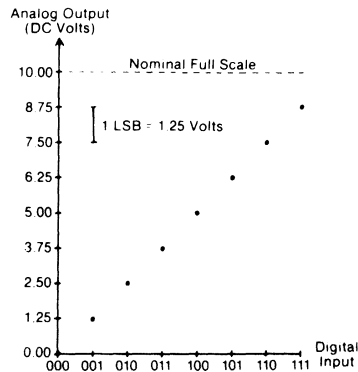
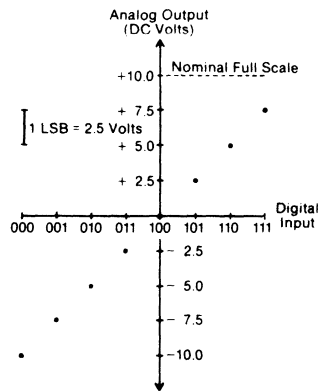

Figure 1. Digital input/analog output transfer function of an ideal, 3-bit, 0 to +10V output range, binary coded D/A converter.
Figure 2. Digital input/analog output transfer function of an ideal, 3 bit, $\pm 10V$ output range, offset binary coded D/A converter.
Let's begin at the beginning, with the data converter input/output transfer functions. Figure 1 shows the ideal digital input/analog output transfer function of a 3bit, 0 to +10V output range, binary coded digital to analog converter (D/A).
Figure 2 shows the ideal digital input/analog output transfer function of a 3 bit, $\pm 10V$ output range, offset binary coded D/A converter.
has $2^8 = 256$ different input codes; a 12 bit D/A has $2^{12} = 4096$ input codes; etc... The 3 bit D/A of Figure 2 operates as follows:
The analog output of a D/A converter changes in discrete analog steps with changes in digital input. The smallest *change* in output level that can be generated by a D/A converter, i.e., the change from one analog output level to an adjacent level, is the value assigned to the converter's Least Significant Bit (LSB). The smallest change in output level a D/A can produce is a measure of its resolving power; it is its *resolution*. Resolution is also expressed in bits. In this example we have a 3 bit converter; its resolution is 3 bits. Resolution can also be expressed in terms of the number of output levels the device has; for a 3 bit device the number is eight. The value of the LSB (also called a quantum) is equal to the converter's Full Scale Range (FSR) divided by the number of different input codes, i.e., the number of different output levels (2^n). A D/A converter's *Full Scale Range* is equivalent to the *nominal* peak to peak voltage (or current for current-output devices) of the converter's output range. For the 3 bit 0 to +10V output range D/A of Figure 1, FSR = 10 volts, and 1 LSB = $10V/2^3 = 10V/8 = 1.25$ volts. For the 3 bit $\pm 10V$ output range D/A of Figure 2, FSR = 20 volts, and 1 LSB = $20V/2^3 = 20V/8 = 2.5$ volts. Table I shows the weights and amplitudes of LSB's for higher resolution converters.
Notice in Figures 1 and 2 that when all the digital inputs are turned "on", i.e., when the digital input is 111, the output of the converter doesn't quite make it to its nominal full scale value. It always falls 1 LSB short. This is due to the fact that
the value of bit 1 (the Most Significant Bit or MSB) is FSR/2, the value of bit 2 is FSR/4, and the value of bit 3 (LSB) is FSR/8. When all the bits are "1", the output level will be the value of bit 1 (MSB) plus that of bit 2 plus that of bit 3 (LSB), i.e., its level will be $(\frac{1}{2} + \frac{1}{4} + \frac{1}{8}) = \frac{7}{8}$ FSR. Therefore, the actual positive full scale output of the D/A in Figure 1 is + 8.75V, not 10V, and the actual positive full scale output of the D/A in Figure 2 is + 7.5V, not 10V. For simplicity and convenience, however, data converters will usually have their analog input or output defined according to its nominal full scale (FS) value or its nominal FSR rather than to its actual FS or FSR.
Invariably, you'll see D/A transfer functions depicted as staircases. If one displays the D/A transfer function on a scope while stepping the input and sweeping the output at the right speed, one can make the transfer function look like the staircase one often sees, but the theoretical transfer function is a series of points as shown in Figures 1 and 2. A given digital input produces one and only one analog output level (voltage or current), and there are only 2^n (n = number of input bits) possible inputs (outputs).